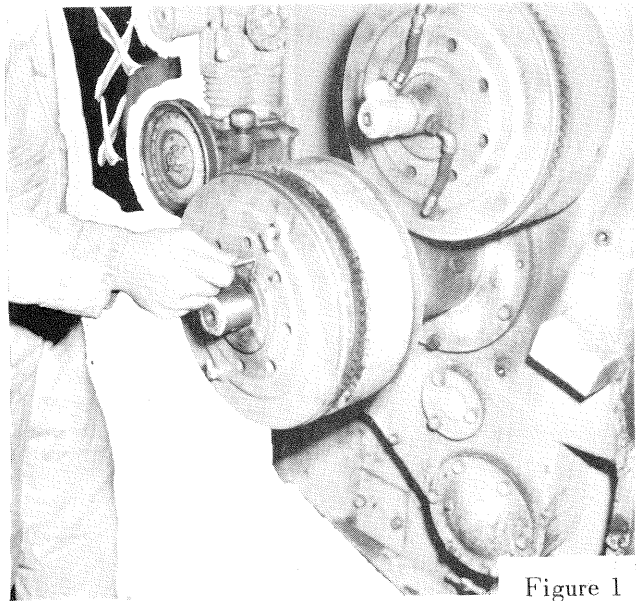

Figure 1
3. Disconnect the air line between the clutch and shaft and loosen set screw from locknut (ring) (Fig. 1).
Step 1. Cut the hose to the length required. Locate the stripping point by putting the hose end next to the fitting socket as shown in Figure 1.